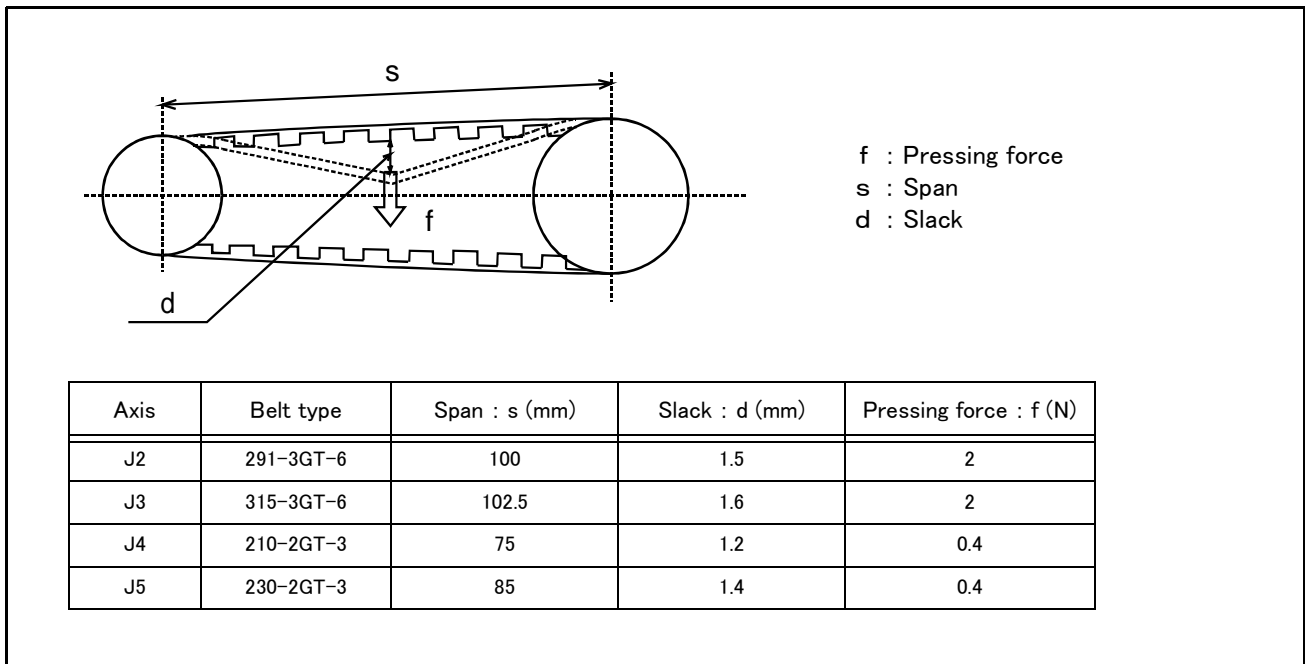

Fig.5-10 : Belt tension
- 3) Visually confirm that the symptoms indicated in "(1) Timing belt replacement period" have not occurred with the timing belt.
- 4) Confirm that the belt tension is adjusted to slacken approx. 1.5mm when the center of the belt is lightly pressed with a finger (approx. 2N) as shown in "Fig.5-10 : Belt tension".
- 4) Confirm that the belt tension is adjusted to slacken approx. 1.6mm when the center of the belt is lightly pressed with a finger (approx. 2N) as shown in "Fig.5-10 : Belt tension".
- 4) Confirm that the belt tension is adjusted to slacken approx. 1.4mm when the center of the belt is lightly pressed with a finger (approx. 0.4N) as shown in "Fig.5-10 : Belt tension".
The timing belt can satisfactorily convey the drive and keep a durable force only when it has an adequate tension. The belt tension should not be too tight or too loose. Instead, it should be adjusted to a degree that elasticity is felt when the belt is pressed with the thumb. If the belt tension is too weak, the belt loosening side will vibrate. On the other hand, if the belt tension is too strong, a sharp sound will be heard and the belt tension side will vibrate. The detailed adjustment (tension) is shown in Fig. 5-10.